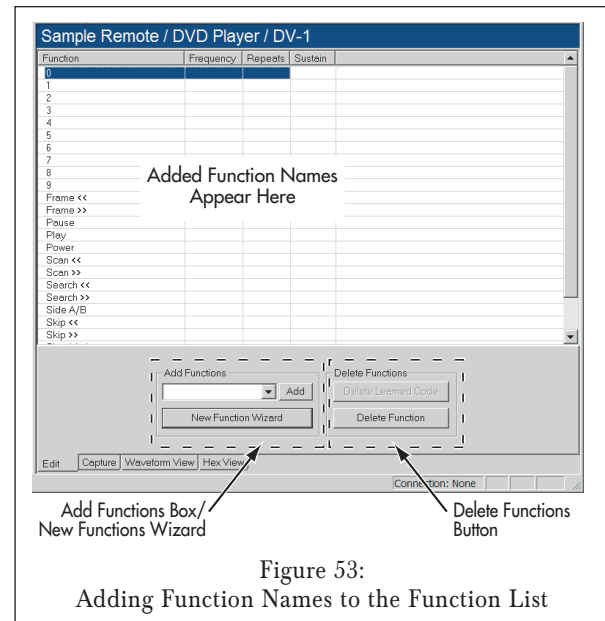

Figure 53:
- Use the ADD FUNCTIONS drop-down box (see *Figure 53*) to add the names of the new remote functions you're going to capture. Select the function names in the drop-down box and click the ADD button to add them to the remote.